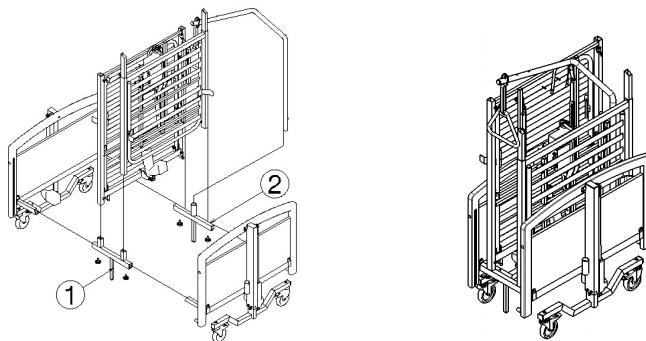

Figure 11: Transport set assembly
8. Storage and transport (see figure 11 on the following page)